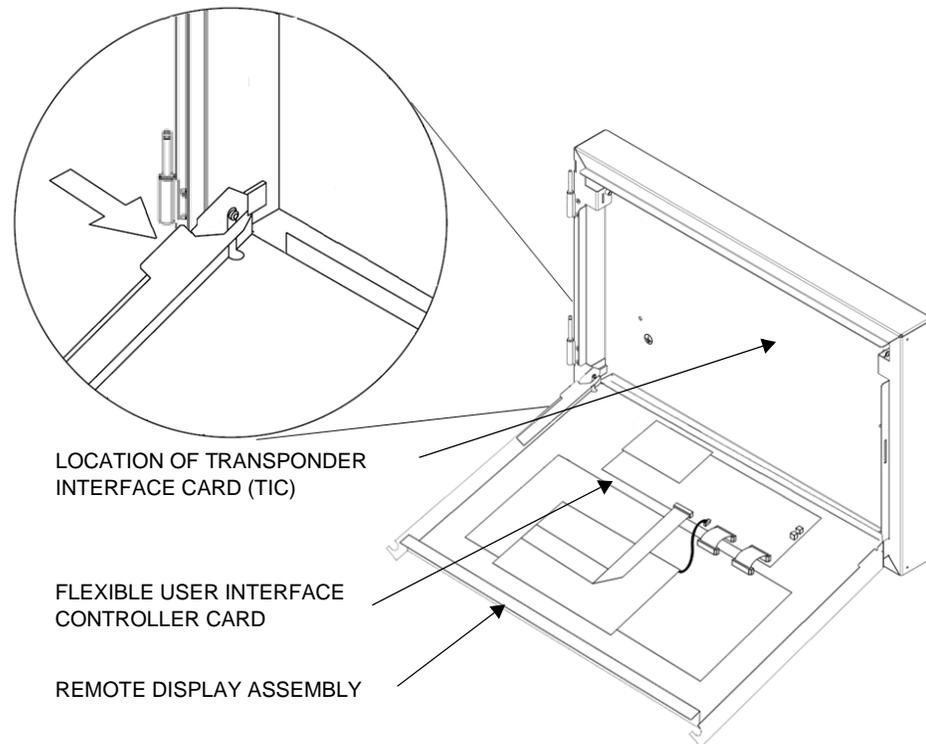

Figure 8. Close Up of Door Assembly Latch (Enclosure Door Not Shown)
5. Press the latches at the bottom of the door assembly toward each other and lift it off the swivel standoffs extending from the side of the remote box (see Figure 8).
1. Orient the new remote display assembly so that the graphic overlay and LCD screen face downward, and the bottom of the assembly is set against the bottom edge of the remote box. (see Figure 8)
2. Depress the latches at the bottom of the door assembly and hook the door onto the swivel standoffs extending in from the side panels of the bay (see Figure 8).
5. Set SW-1 on the Flexible User Interface controller card (see Figure 8) to the address assigned in the 4100U Programmer.